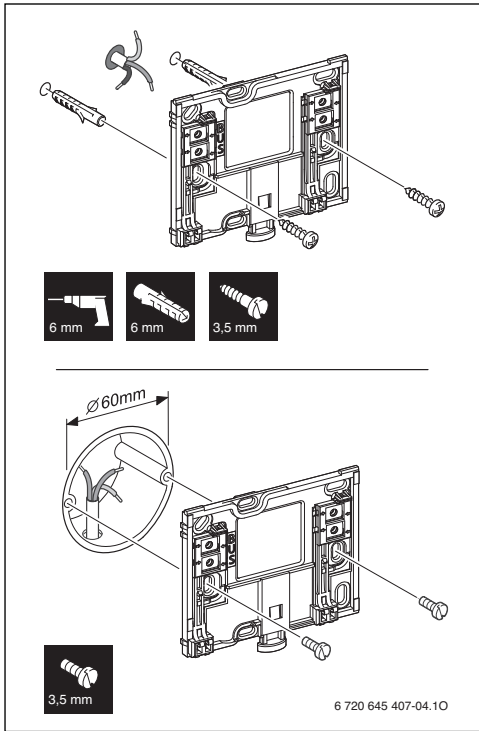

Fig. 3 Installation of wall-mounting plate
- ▶ Install wall-mounting plate (→ Fig. 3).